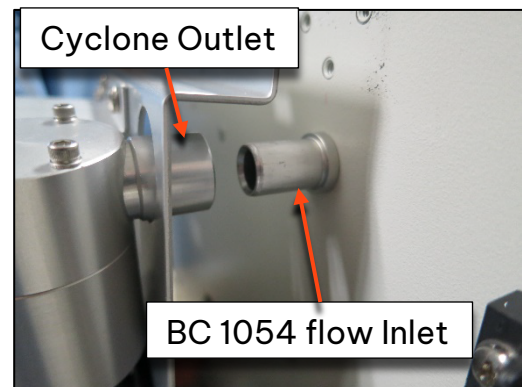

Figure 2-7 Dilution Flow System Cyclone Alignment
- b. Align the sharp-cut cyclone outlet (built into the dilution module) with the flow inlet on the back of the monitor (**Figure 2-7**).